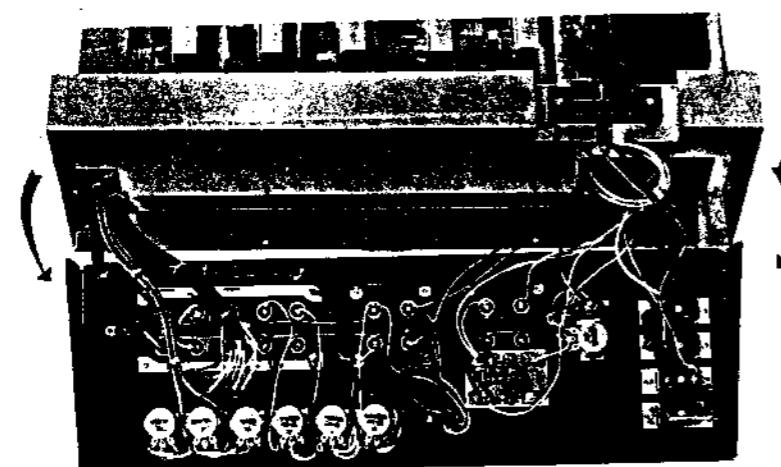

Fig. 2-5. Removal of Back-Panel Ass'y
- The Back Panel Assembly is now free, and may be tilted backward and down as shown in Fig. 2-5.